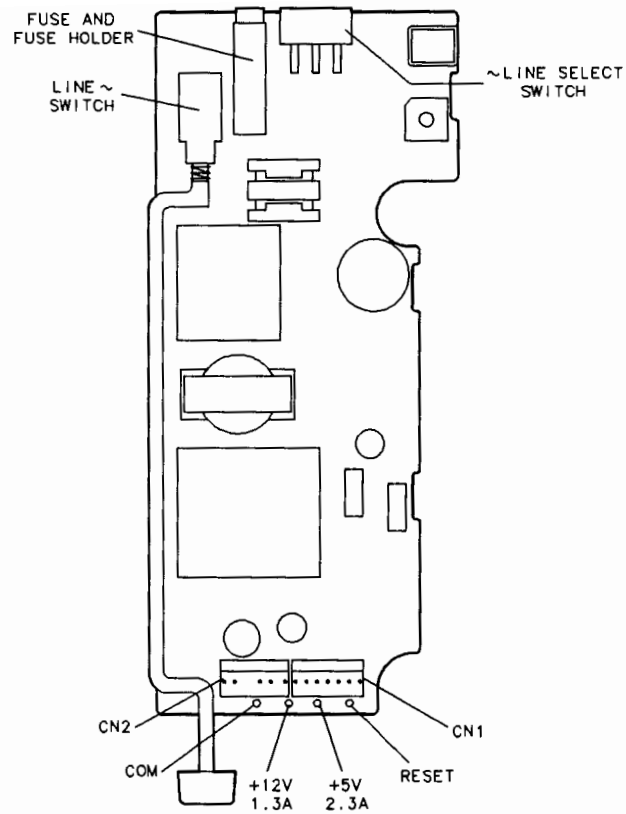

Figure 4-1. Power Supply PCA
Power supply voltages should be checked before any troubleshooting procedures are started. Figure 4-1 shows the location of power supply voltage test points. This will aid you in isolating the failure to a replaceable assembly. The power supply is a non-exchange assembly.
If the fan is not operating, check primary power to the disc drive. Ensure that the **LINE SELECT** switch on the rear panel is set correctly and the fuse on the rear panel is good. Check the power supply PCA voltages (see figure 4-1).
- d. Check supply voltages on the power supply PCA (see figure 4-1).
- b. Check supply voltages on the power supply PCA (see figure 4-1).